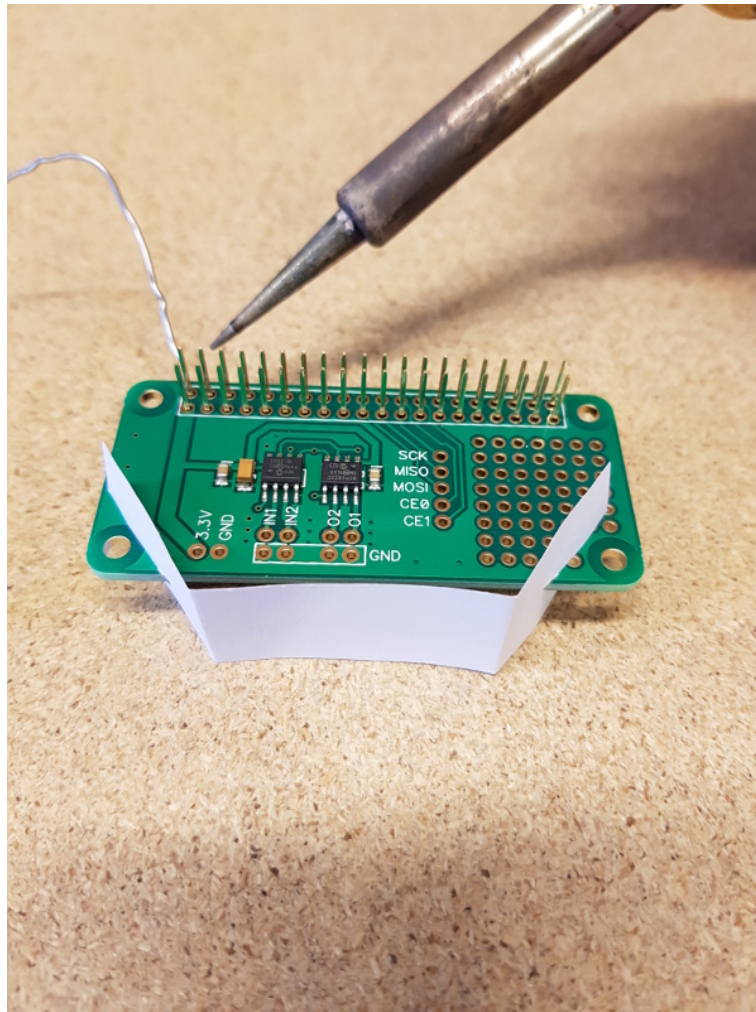

Figure 5: Soldering the ADCDAC.
- (b) Use the assembly jig (can be downloaded from AB Electronics web site) to stabilize the setup during soldering, see Figure 5.